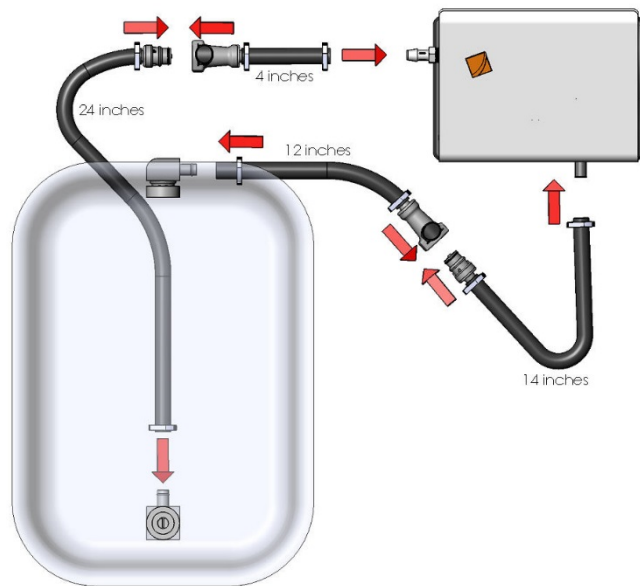

Fig. C-6 Classic 6 Bath to Heater Tubing Connection
2. Connect the tubing as shown in figure C-6 or C-7.